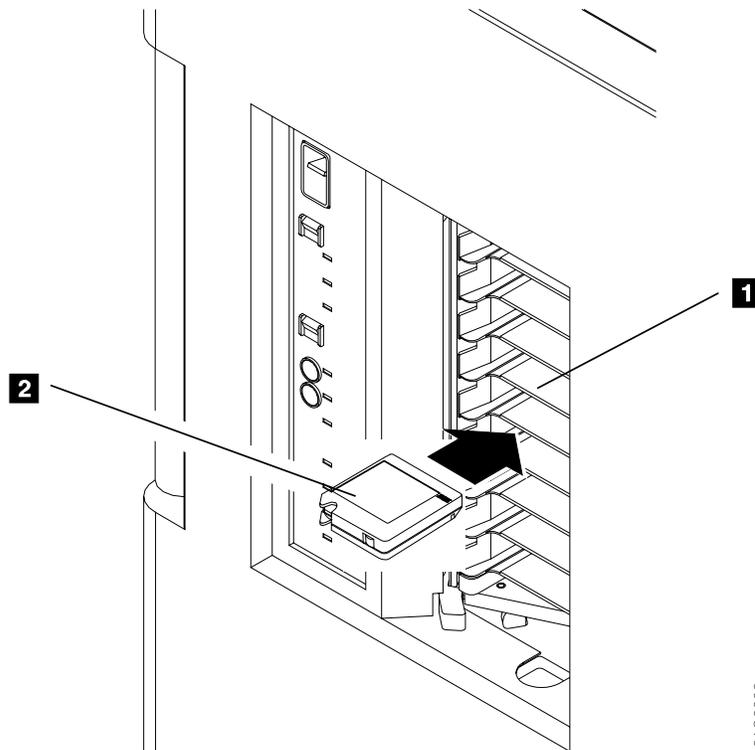
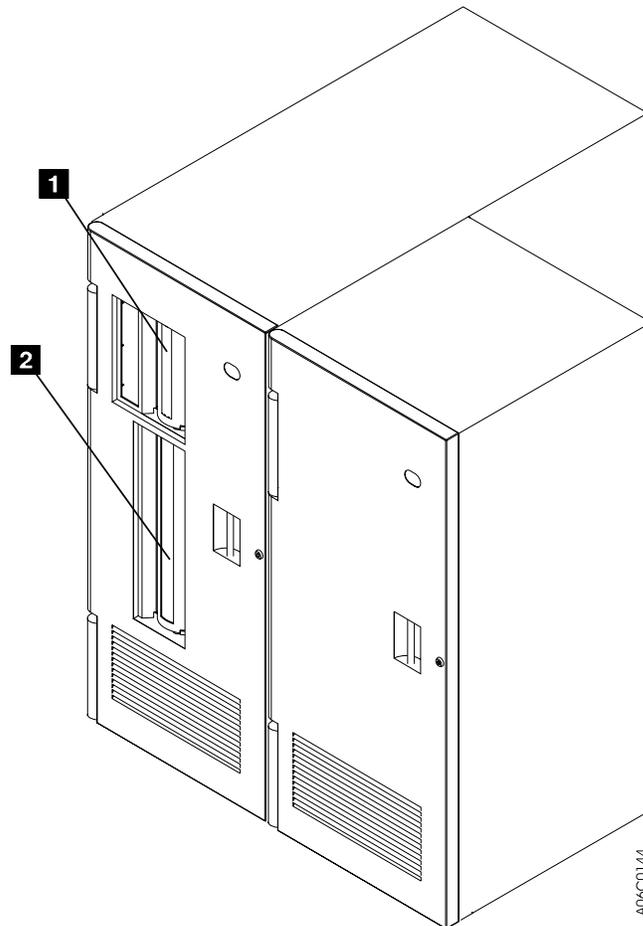

Figure 38. Inserting Cartridges in the Convenience Input/Output Station
Figure 39. Optional 30-Cartridge Input/Output Station
Note: Figure 38 on page 83 shows the optional 10-cartridge convenience Input/Output station. Figure 39 on page 85 shows the optional 30-cartridge convenience Input/Output station. If the 30-cartridge convenience Input/Output station is installed, the operation remains the same, but there are two operator doors. The upper operator door **1** provides access to the upper ten cartridge cells. The lower operator door **2** provides access to the lower 20 cartridge cells. (Both doors open together.)
2. Insert the cartridges (**2** in Figure 38 on page 83) that you want to add to the library into the convenience Input/Output station **1** with the cutoff corner (and leader block) to the left and the external label facing to the **inside** of the convenience Input/Output station. Shut the convenience Input/Output station door.